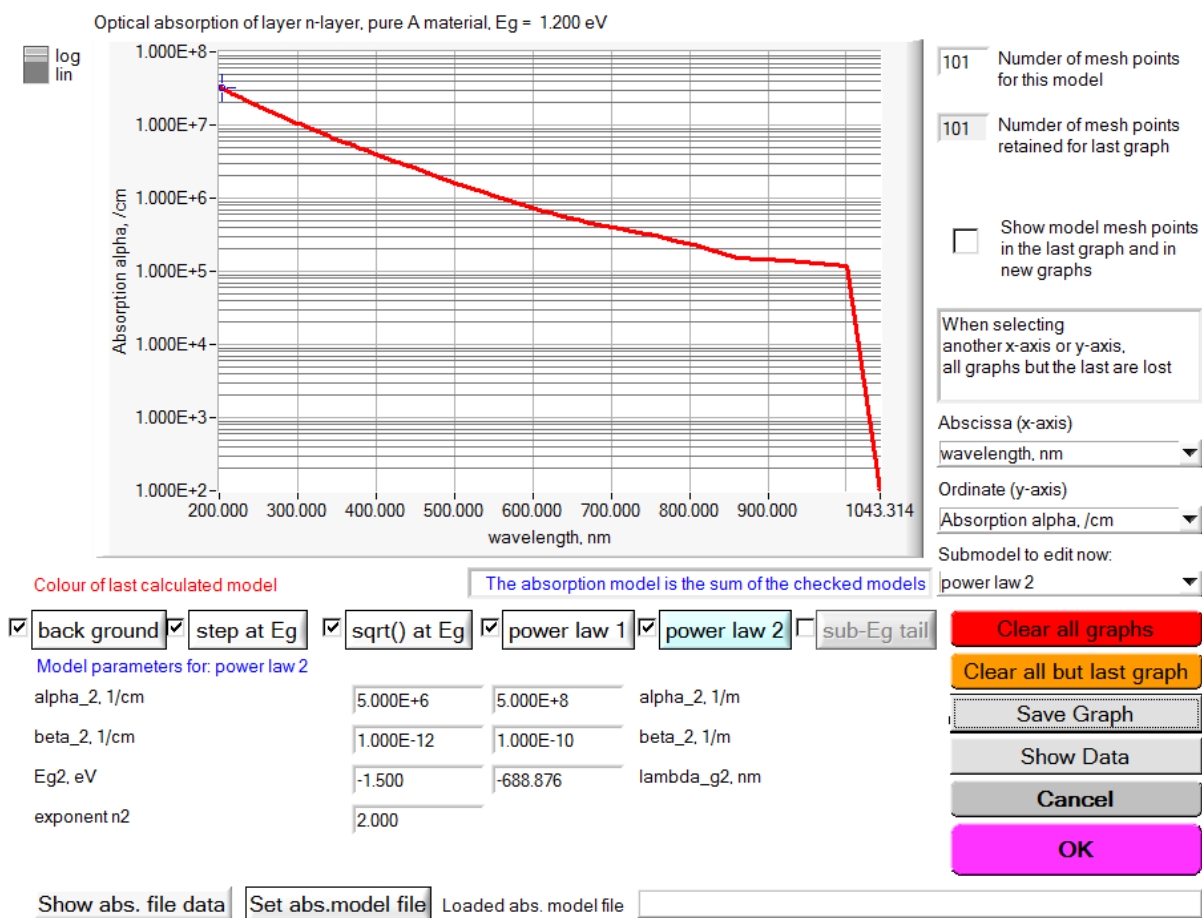

Figure 3.16 The Absorption Model Panel of SCAPS $\geq 3.3.07$.
The optical absorption block in the Layer Properties Panel has been changed in the new SCAPS $\geq 3.3.07$, see Figure 3.15. When the optical absorption of a material/layer is set to ‘from model’, the ‘set absorption model’ button is active; upon clicking, the Absorption Model Panel opens (Figure 3.16). This panel is operating much like the grading panel and the (spectrum or generation) model panel, that are perhaps familiar to the SCAPS user.
- The number of mesh points (λ values or $h\nu$ values) in the top right part of the panel of Figure 3.16, is only relevant for this panel. In calculations, SCAPS decides the λ -values at which to evaluate $\alpha(\lambda)$, the generation $G(x, \lambda), \dots$ based on the calculation settings ordered by the user: e.g. λ values in the spectrum file, λ values at which $QE(\lambda)$ are ordered,...